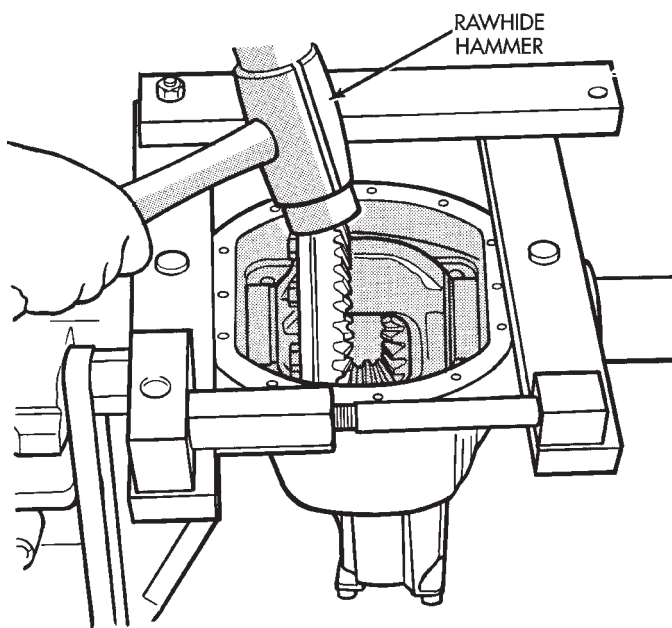

Fig. 38 Differential Installation
- (4) Remove the dial indicator.
- (5) Install differential and outboard shim/spacer (selected thickness) in housing.
- (6) Install case in the housing. Tap the differential case to ensure the bearings are fully seated (Fig. 38). Remove the spreader.